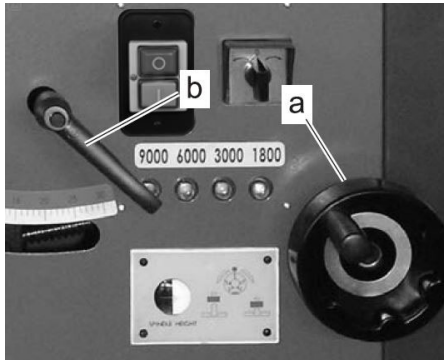

Fig. 30: Adjusting the inclination of the spindle
Step 2: Release the clamping lever (b) (Fig. 30).
Step 4: Use the handwheel (b) (Fig. 30) to adjust the inclination of the spindle.